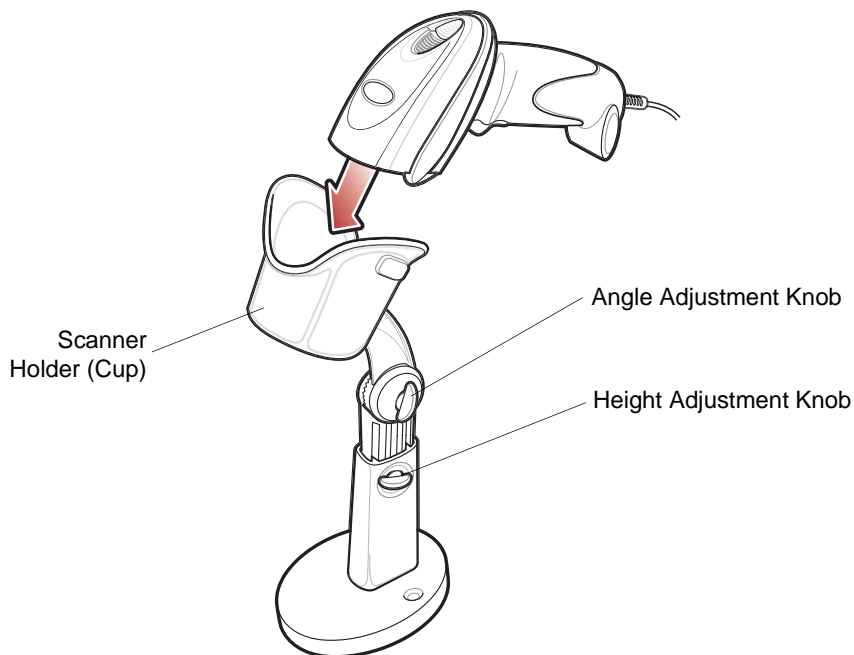

Figure 2-14 *Inserting the Digital Scanner in the Intellistand*
2. Insert the digital scanner in the Intellistand by placing the front of the digital scanner into the stand's "cup" (see Figure 2-14).